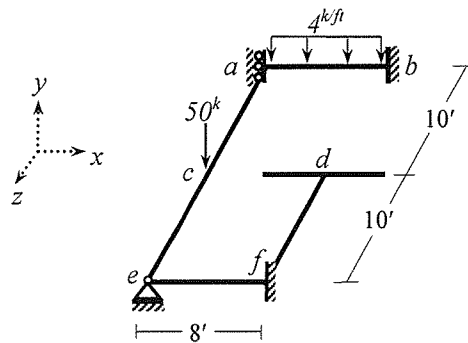

Fig.4
- Use stiffness method to calculate deflection of joint *a* and rotations of joint *e* of the grid system *abcdef* loaded as shown in Fig.4.